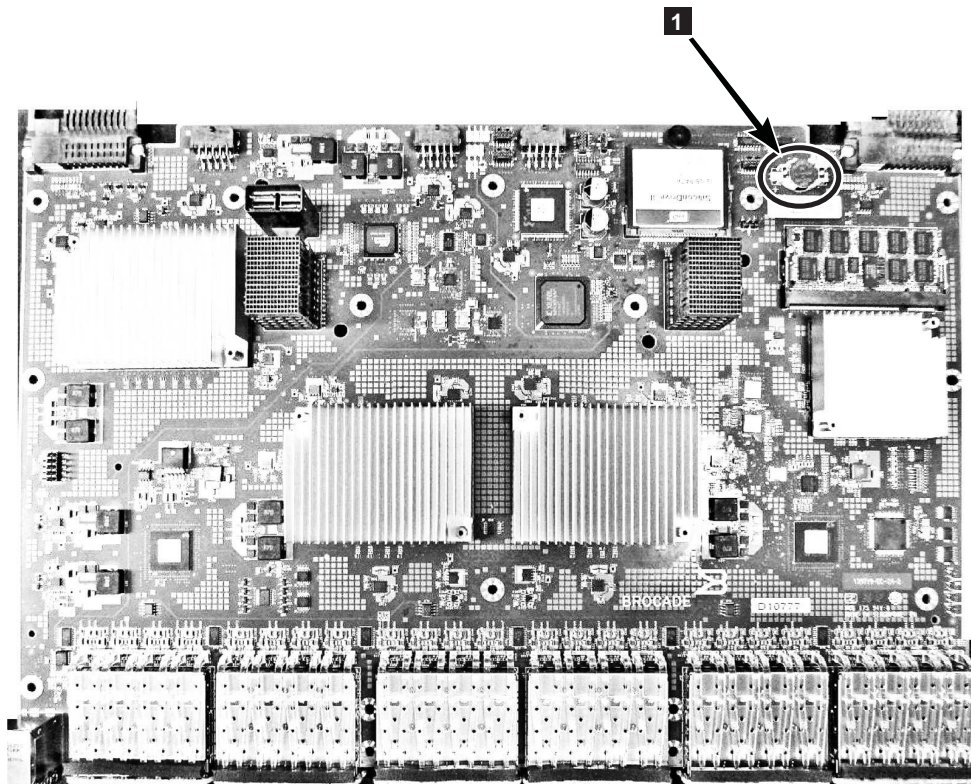

Figure 78. Location of battery holder
5. On the main circuit board, go to location **1** shown in Figure 78 and remove the BR1225 battery from the holder.